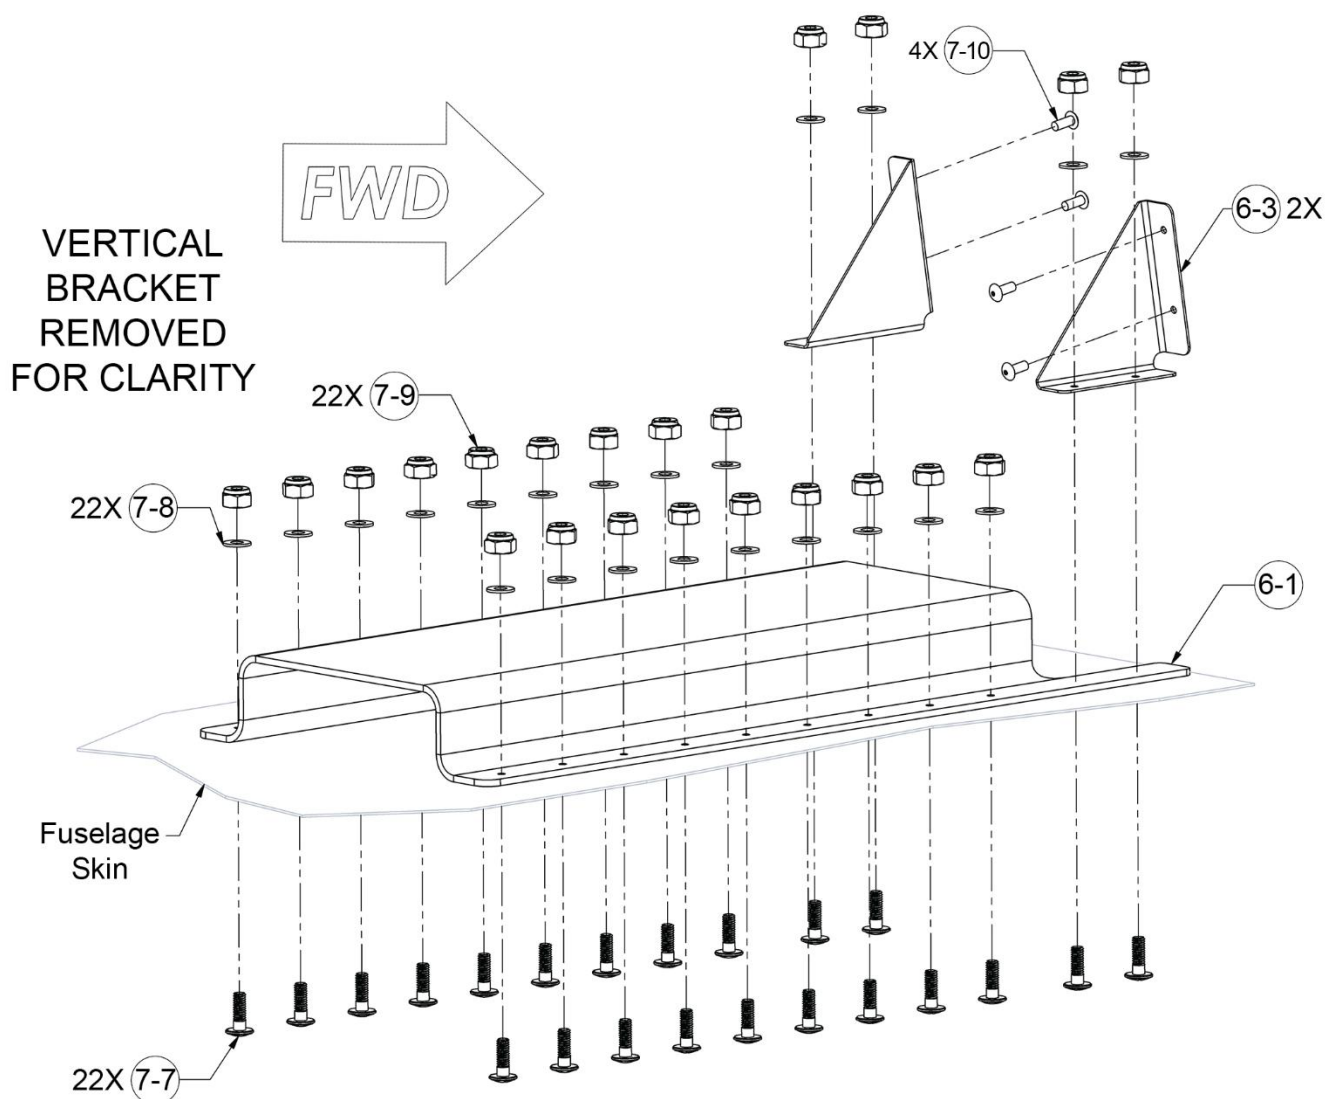

Figure 23: Attaching Bracket Assembly to Aircraft
21. Permanently attach angle braces to FS180 bulkhead with rivets (see Figure 23). Rivet left angle brace from front of bulkhead and right-angle brace from rear of bulkhead.
22. Permanently attach bracket assembly to fuselage skin and FS180 bulkhead (see Figure 23).